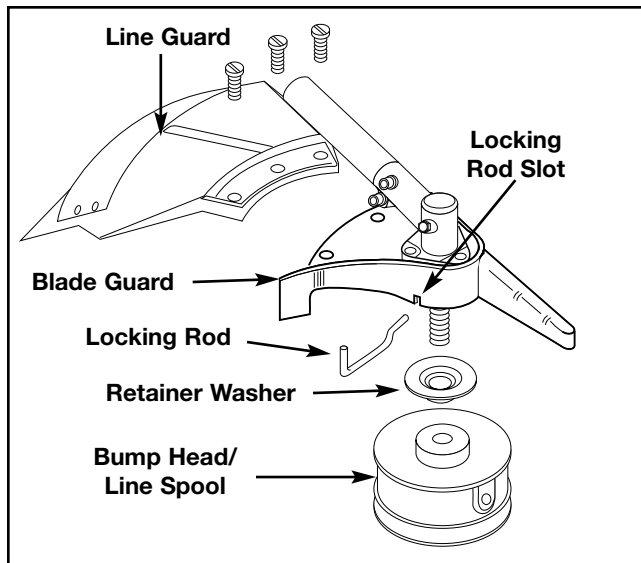

Fig. 6
2. Insert the locking rod into the locking rod slot. Rotate the line spool **clockwise**. Remove the line spool and retainer washer from the shaft (Fig. 6).
- Make sure that you have all of the necessary parts to install the line spool (Fig. 6).
- Insert the locking rod tool into the locking rod slot and place the washer on the shaft (Fig. 6). Screw the spool **counterclockwise** onto the shaft.
- Install the line guard using three (3) screws (Fig. 6). Tighten the screws securely.